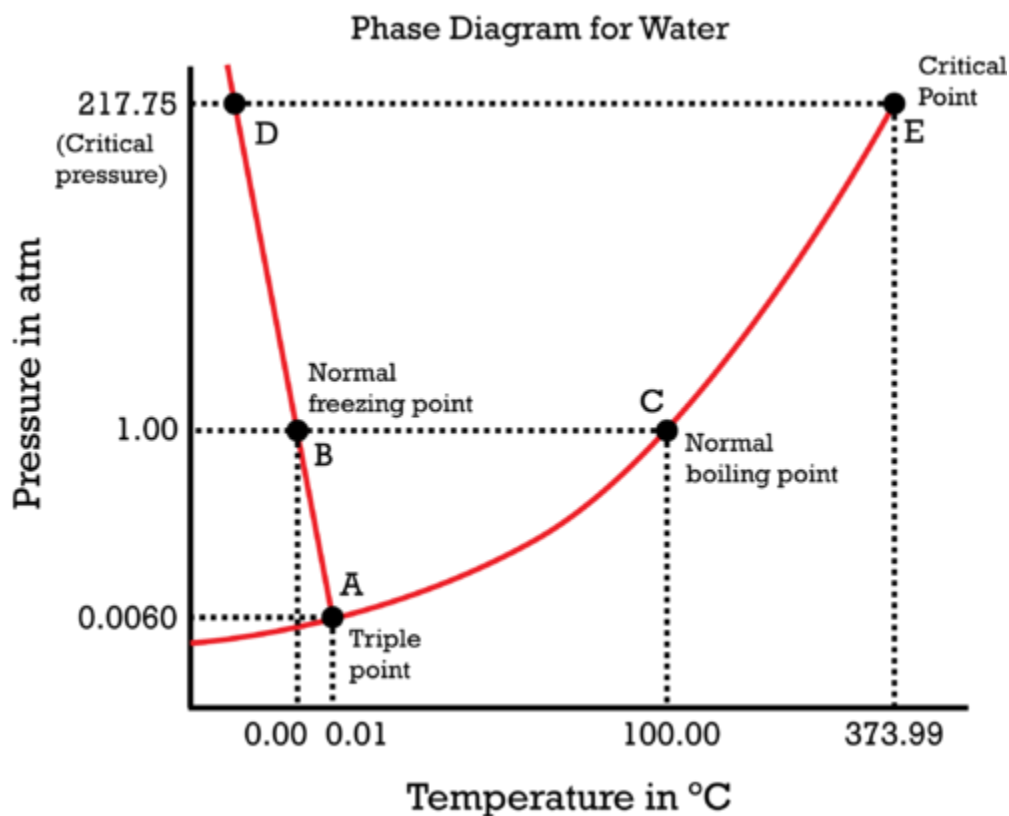

Figure 1
25.a) The system acetic acid - chloroform - water is one of the classical examples of partial miscibility in a ternary system, first studied by Wright, Thompson, and Leon in 1891 (1). Thanks to the subsequent workers Brancker, Hunter, and Nash (2), the equilibrium relations at 25° are very well known, as far as the compositions of equilibrium liquid layers are concerned. Nothing, however, is known about: (a) the solid-liquid equilibria at low temperatures; (b) equilibrium liquid compositions at temperatures other than 25°; (c) the critical phenomena, L1-V (L1 = chloroform layer) and L2-V (L2 = aqueous layer). So far no study has been made of critical phenomena in any system exhibiting partial miscibility in the liquid state and the results arrived at in this paper have general applicability to all systems of this kind. A previous paper (3) has dealt with the thermodynamics of this system, as exemplified by the vapor pressures and densities
Because of the chemical natures of the substances named in the title, formation of compounds or of solid solutions is inherently improbable and therefore the study of the freezing point curves was expected to yield little of interest. The study was, however, carried out for the binary systems chloroform - acetic acid and chloroform - water, and for the ternary system, using a double-junction copper-constantan thermocouple, a Brown Elektronik recorder, and liquid nitrogen as a coolant. The system acetic acid -water was previously studied by various workers (4) and the eutectic found to lie at 58.1% acetic acid and -28.5 to -27.0°. The eutectic of the chloroform - acetic acid system was found to lie at 91.8% CHCl3 by weight, and -67.5° (Fig. 1). In the system chloroform-water, the eutectic lies at 0.1% H2O and -64.0°. The ternary eutectic was found to lie at -70° and 90.7% chloroform, 8.3% acetic acid, and 1.0% water. The eutectic trough leading from the acetic acid -water eutectic to the acetic acid -chloroform eutectic was determined experimentally.